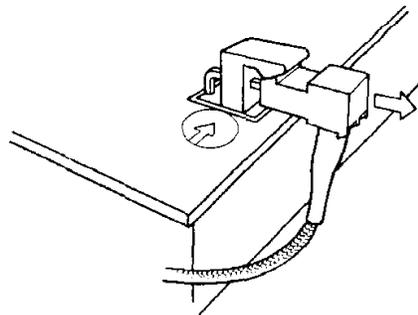

FIGURE 4
7. Carefully lift up the cover enough so that you can reach underneath and unplug the LED from the connector on the controller board. (Figure 4). (Loosen the back screws some more if necessary).